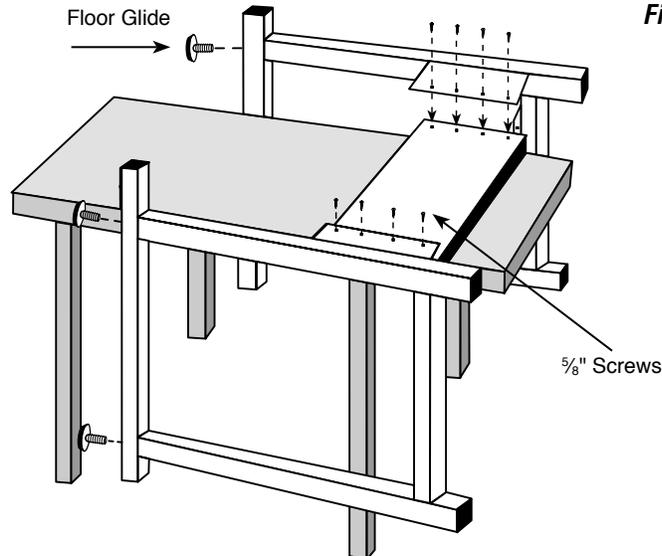

Figure 1
- 1** Fasten floor glides (**G**) into bottom of leg frames at each end as shown in **Figure 1**.
- 3** Hang left leg frame (**A**) on top of back panel as shown in **Figure 1**. Make sure ends of back panel are snug against steel leg frames and holes are aligned in steel flange with pre-drilled holes in back panel. Attach using four 5/8" screws (**I**) supplied. Repeat step for right leg frame.